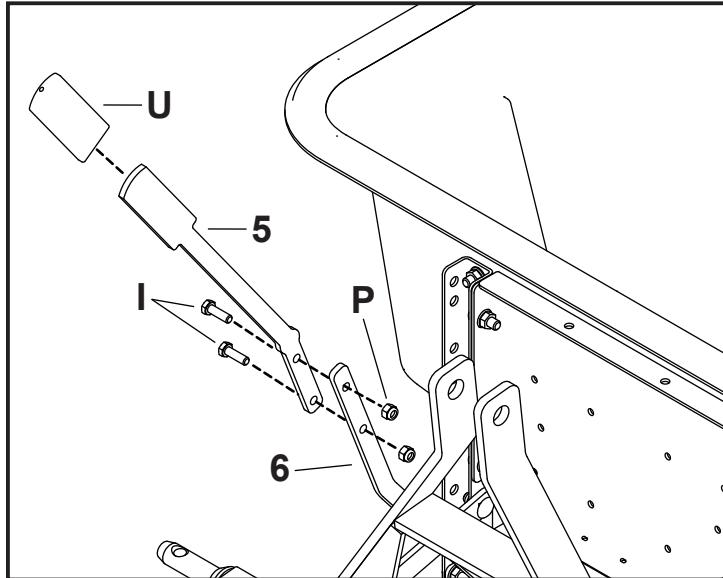

FIGURE 10
STEP 10: (SEE FIGURE 10)
- Place the upper handle (5) to the lower handle (6). Make sure the top of the upper handle (5) is facing forward away from the spreader.
- Install two 5/16" x 1" bolts through the upper and lower handles. Securing with two 5/16" nylock nuts (P).
- Install the handle grip (U) onto the upper handle (5).